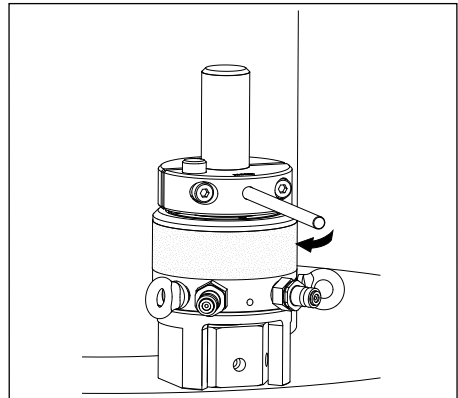

FIGURE 10, COMPLETE QUICK-FASTENING REACTION NUT INSTALLATION
4. Whilst supporting the weight of the tool, if located horizontally, and ensuring the bridge access window points radially outward, using a Tommy bar, screw the Quick-Fastening reaction nut down until it firmly seats against the piston taper. Do not advance the piston to the Quick-Fastening reaction nut as this does not ensure correct engagement. This, in effect, will centralise the assembly, retain the AquaJack and lock the Quick-Fastening reaction nut in position. See Figure 10